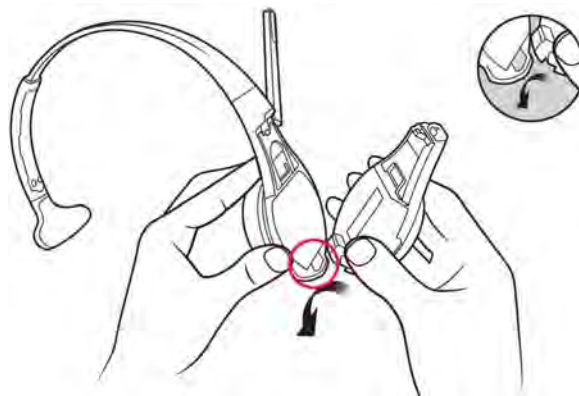

Figure 8.
2. Align Charging Contact Block on Control Pod into the Charging Contact Block Receptacle of the Headset Carrier. Once the Charging Contact Block is set into in the Receptacle it will act as hinge or pivot point. See Figure 8.